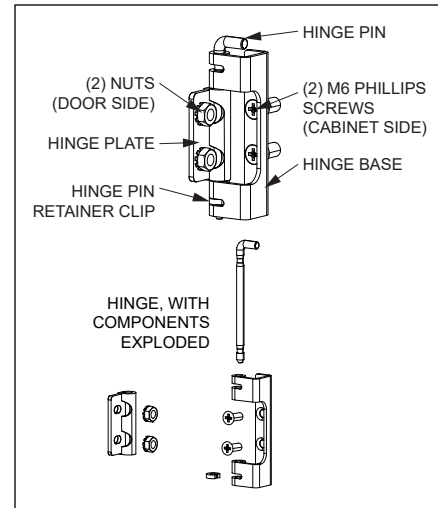

Figure 2 Hinge Construction
3. Figure 2 shows the components of the hinge. The hinge plate is on the door, while the hinge base is on the CUBE.